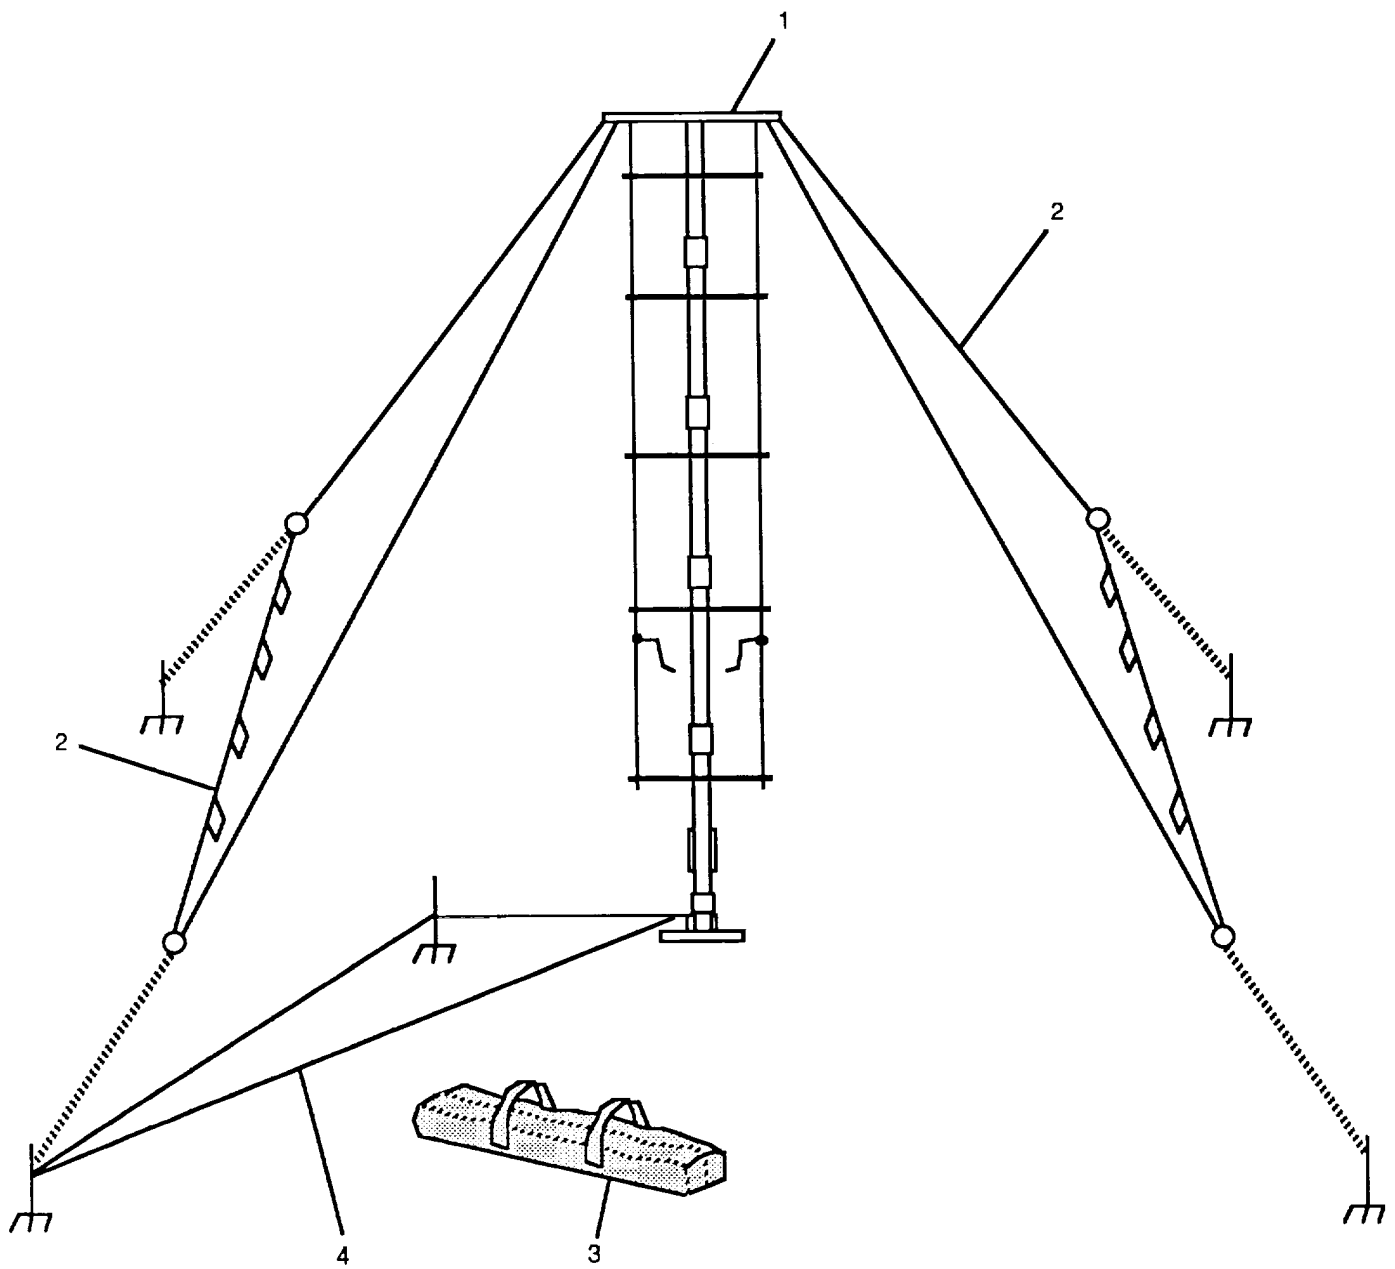

Figure F-7 . Antenna AS-4227/VRC-86(V)
GROUP 0702 ANTENNA AS-4227/VRC-86(V) FIGURE F-7